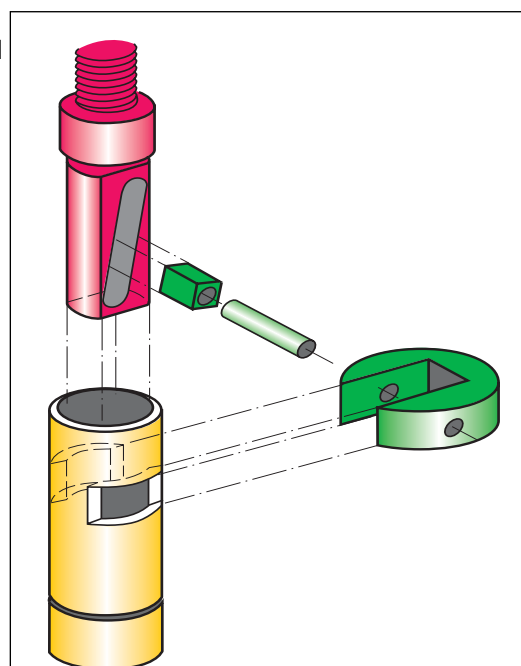

Fig. 10
1. If worm shaft (19) and worm wheel (3) has been removed and replaced the position of the worm wheel (3) to the worm shaft (19) must be adjusted again (refer to section 6.4.4). In the other case install the same number of shim discs (5) again in the same order as removed during dismantling. This assures that the position of worm wheel (3) towards worm shaft (119) remains unchanged.
2. Make sure that the leakage bore in the plunger rod guide (26) points **downwards**.
3. The mounting position of the eccentric (7) and the sliding shaft (50) must follow the sectional drawing resp. figure 10.
4. Observe the following when installing allen head screws (56):